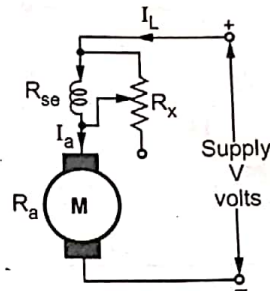

Fig. Q.52.2 Field divertor method
• In this method the series field winding is shunted by a variable resistance (R_x) known as field divertor. The arrangement is shown in the Fig. Q.52.2.